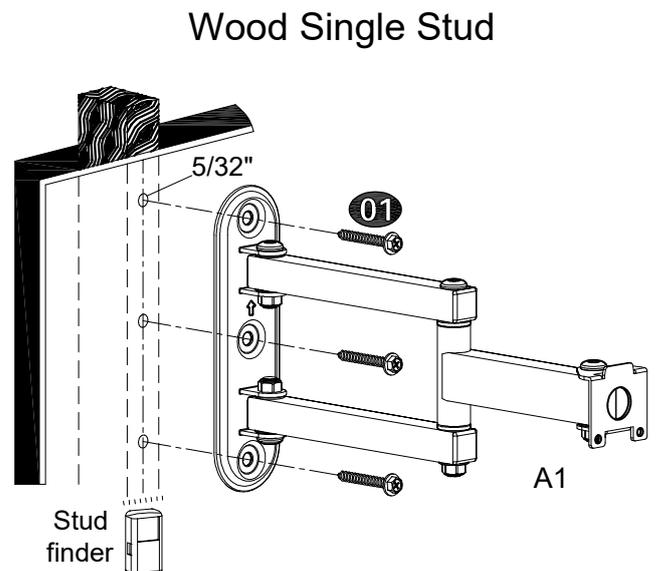

Figure 3 (keep the wall plate level)
If you mount TV mount into wood studs, pre-drill the mark 3 holes using 5/32" drill bit to a depth of 2.36", fix wall plate (A1) to the wall with screws (01). (Figure 3)